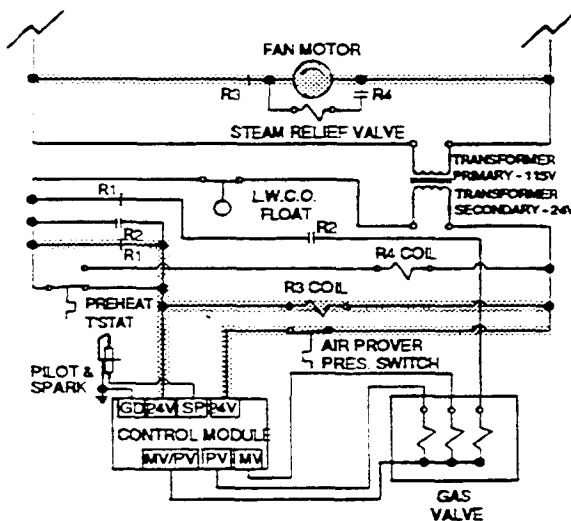

Figure 5-10. Partial Schematic
- B. Refer to Figure 5-10. When the combustion circuits are energized, the ignition and combustion sequence starts.